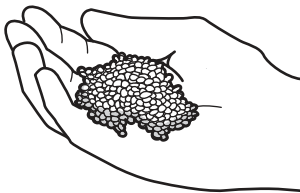

Fig. 6.1
- 6 Fig. 6.1 shows a handle made from polymorph. Polymorph is a thermoplastic supplied as granules.